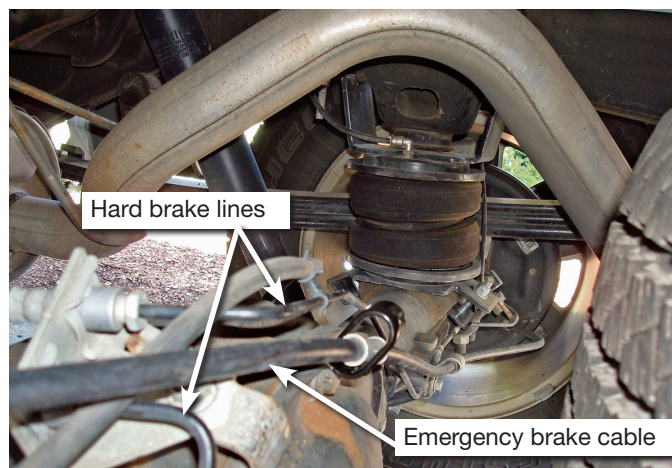

Fig. 9
13. Bend the frame clamp slightly to obtain clearance on the hard brake lines mounting to the top of the axle (fig. 9).